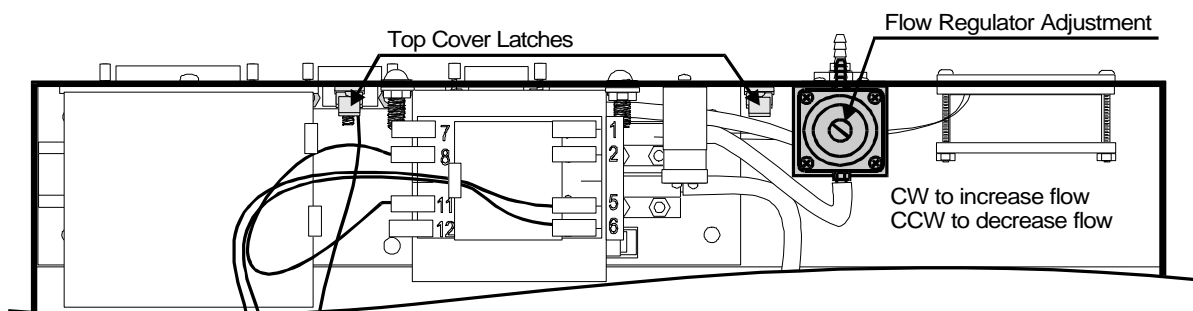

Figure 30 Cover Latches and Flow Regulator Adjustment Locations
- 9 Reach through the opening at the top of the instrument and release the two catches at the top rear, inside the instrument. See **Figure 30** on **Page 39** for latch locations. This releases the plastic cover from the metal base. Lift the housing up and towards you, and remove it from the chassis. Store the cover in a safe place.